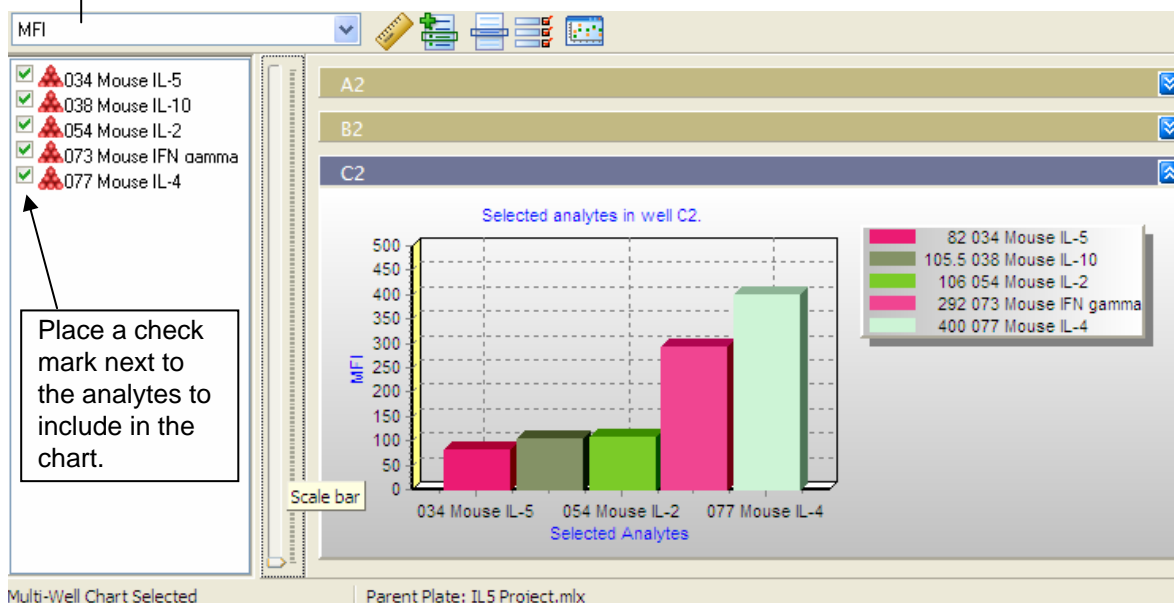

Figure 7.2 Multi-well chart for C2
1. To minimize a multi-well, click the  arrow (Figure 7.2).